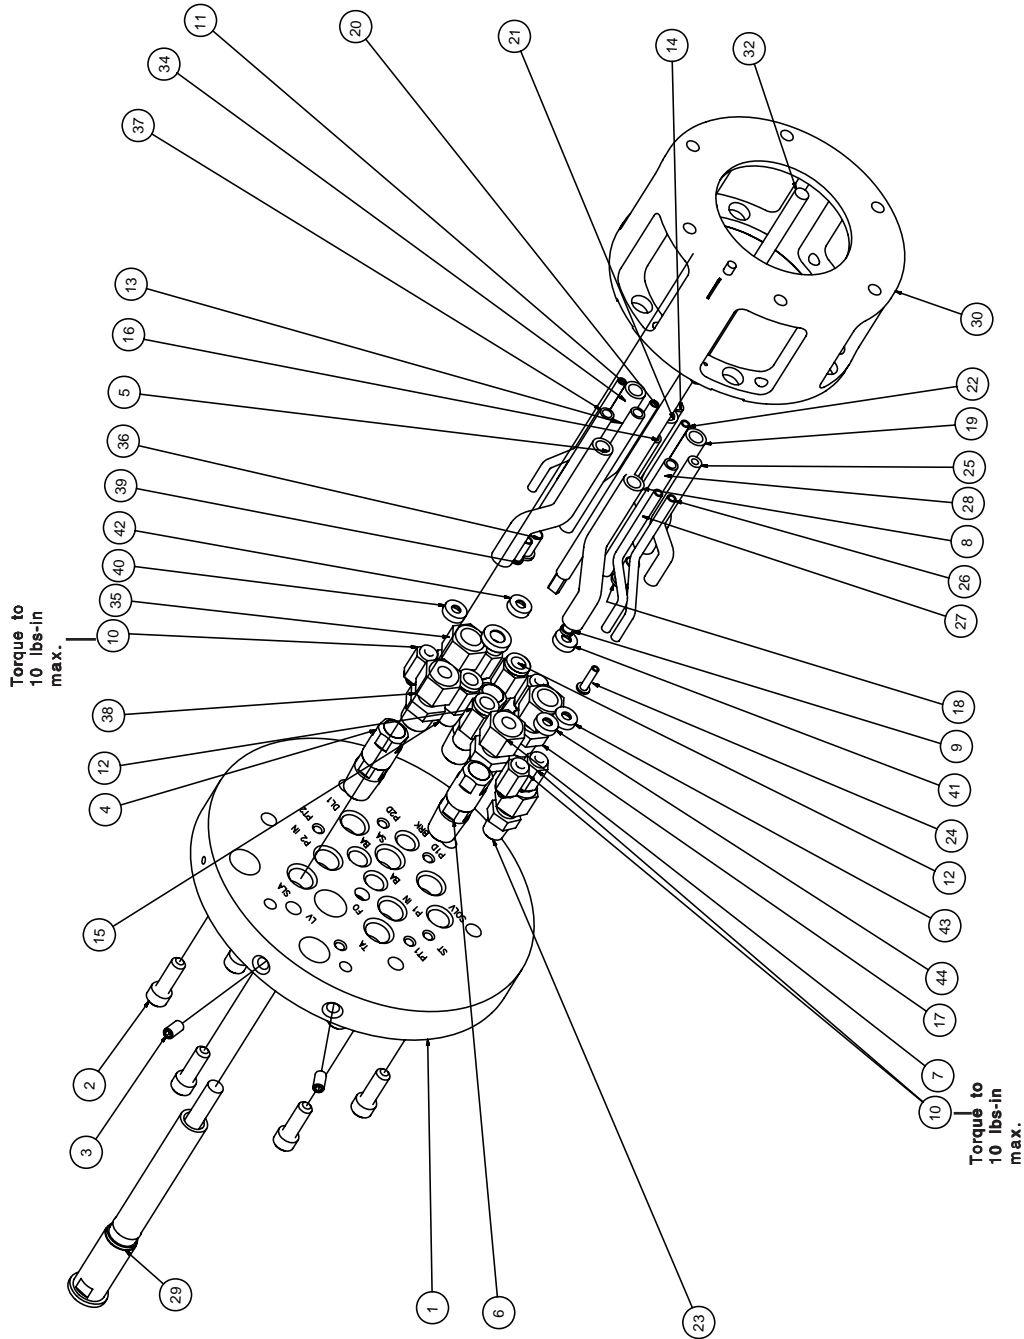

Figure 28: A10892-XXXXXXX Tubing Bundle Assembly (Metric)
**A10892-XXXXXXX TUBING BUNDLE ASSEMBLY (METRIC) - PARTS LIST (Figure 28)**
**PARTS LIST BULLET DEFINITION TABLE - (Figure 28)**